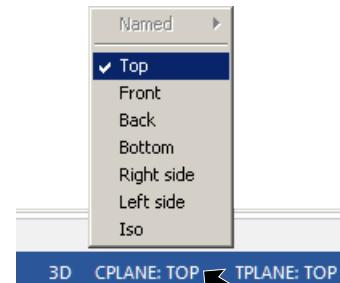

Fig. 10
Step 2. Confirm CPLANE in Status bar at bottom of the graphics window and changed to TOP, Fig 10.